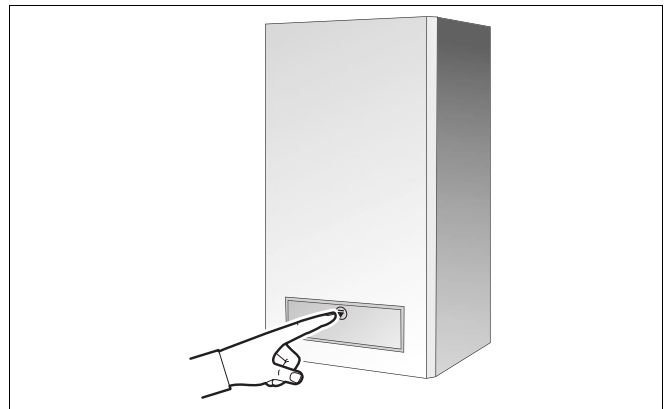

Fig. 1 Control panel
- Open the control panel cover (fig. 1).
- Open the control panel cover (see fig. 1).
- Close the control panel cover (fig. 1).